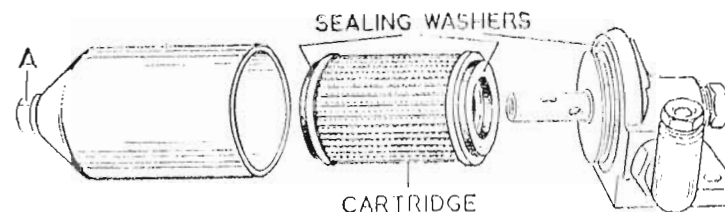

FIGURE 9. The external oil filter.
Unscrew the bolt (A) FIG. 9, to dismantle the filter unit, at the same time supporting the bowl to avoid possible damage. Extract the filter cartridge, making sure that the sealing washers are retained, and if it is badly contaminated, it must be renewed. If it is only lightly contaminated, wash in gasoline (petrol) together with the filter bowl body and other parts and dry out. When reassembling, examine the sealing rings, replacing if they show any sign of deterioration.